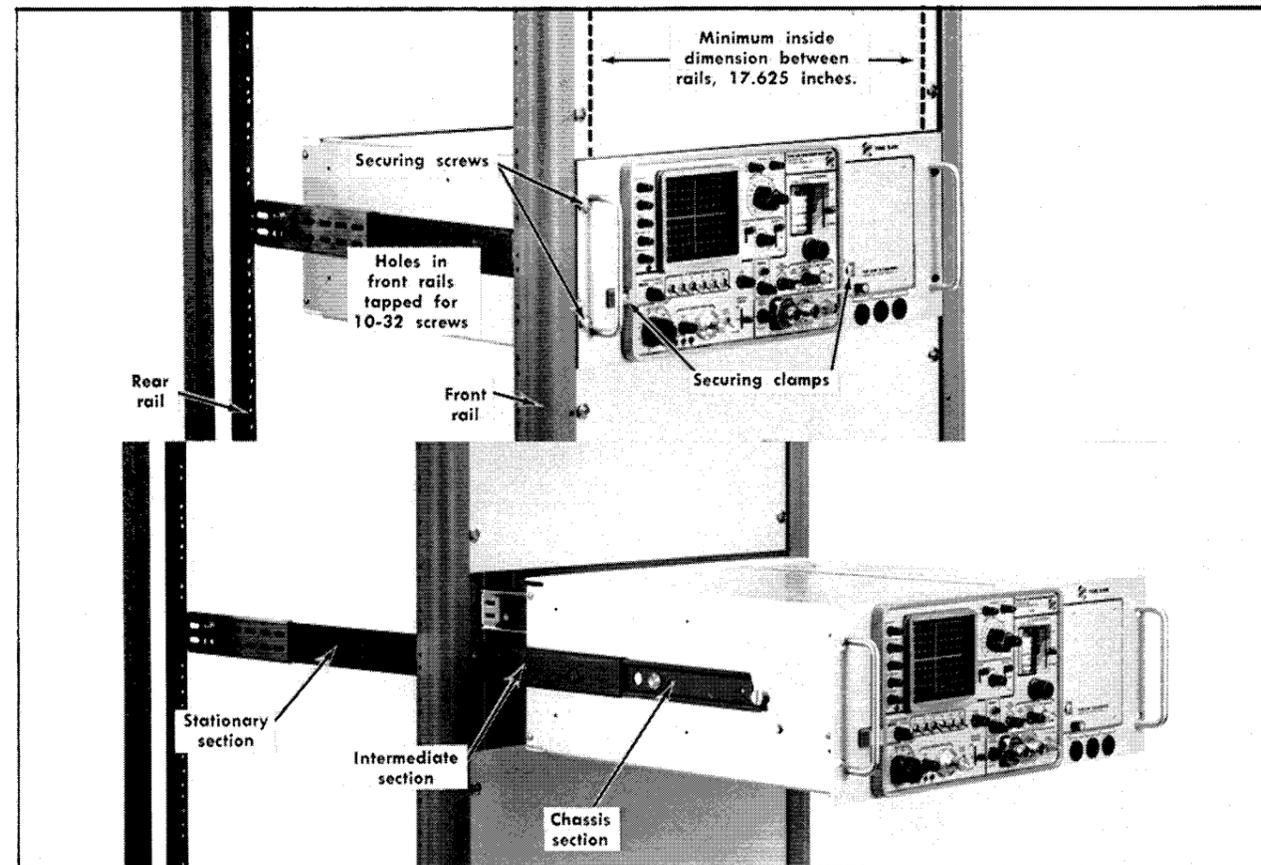

Fig. 10-1. The Type R491 installed in a cabinet rack (side removed): (A) Held into rack with securing screws; (B) extended on slide-out tracks.
**Installation in Rackmount Cabinet.** The Type 491, mounted in a cabinet type rack, is shown in Fig. 10-1. The instrument is installed in the rack-mounting cabinet, then secured inside the case by means of two locking screws through the rear of the cabinet plus two securing clamps over the front panel latches.